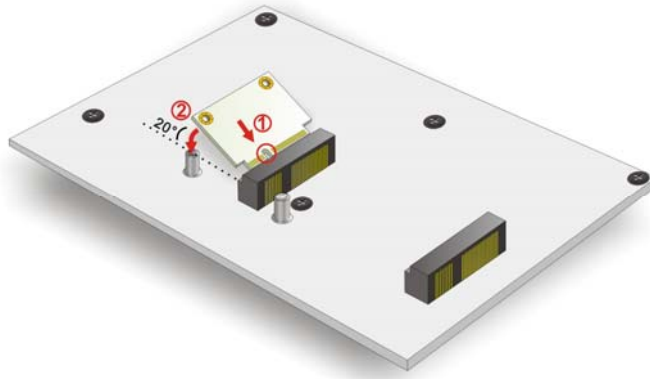

Figure 4-16: Insert the Half-size PCIe Mini Card into the Socket at an Angle
Step 3: Insert into the socket at an angle. Line up the notch on the card with the notch on the connector. Slide the PCIe Mini card into the socket at an angle of about 20° (Figure 4-16).